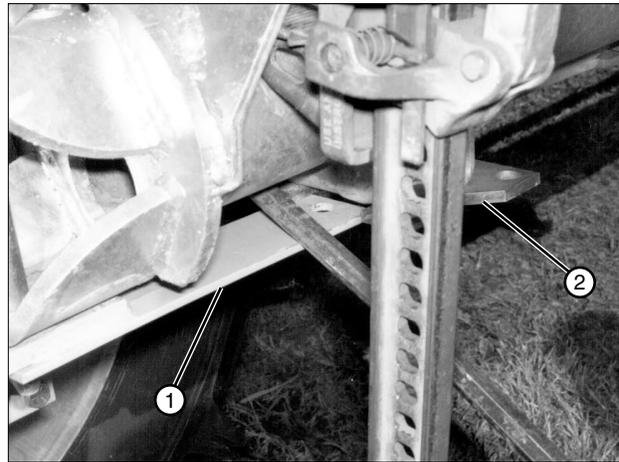

Figure 28-2 1. Steering Arm 2. Latch Plate
5. Using a pry bar, push down on the gearbox mount steering arm to release it from the latch plate while pushing the tire toward the tow position until steering arm is out of latch plate. See figure 28-2.